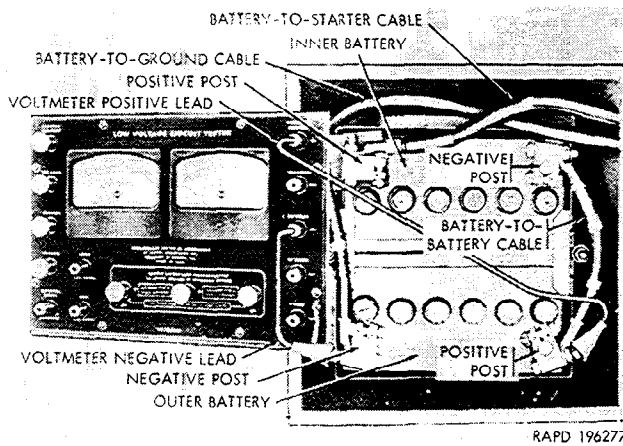

Figure 2-75. Testing voltage of outer battery.
c. *Check Voltage of Outer Battery (fig. 2-75).* Connect the positive (+) test lead clip to the positive (+) post of the outer battery and the negative (—) test lead clip to the negative (—) post of the outer battery. Crank the engine with the starter (ignition switch off) and note the reading on the voltmeter lower scale.